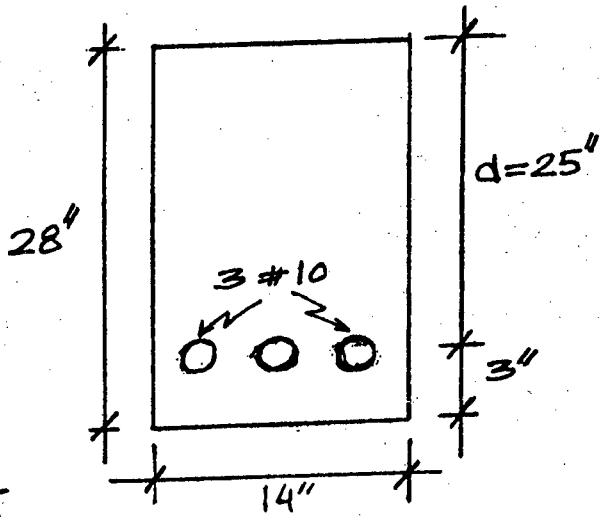

Fig. 2
5. (a) What are the sources of uncertainties in analysis, design and construction of RC structure? Discuss how safety is ensured against these uncertainties in USD method. (7)
- (b) Discuss the behavior of RC rectangular beam in flexure under increasing load by drawing neat sketches for strain and stress distribution of uncracked, cracked and ultimate conditions. (8)
- (c) A singly reinforced RC beam section, as shown in Fig. 2 has a width of 14 in., effective depth of 25 in. and total depth of 28 in. The tension reinforcement consists of three No. 10 bars in one row.
- (i) Cracking moment (10)
- (ii) Stresses in concrete and steel caused by a bending moment $M = 120$ kip/ft. (10)
6. (a) What is the purpose of providing minimum amount of flexural steel in beam? Write ACI/BNBC code provisions for minimum reinforcement ratios. (5)
- (b) Discuss how a minimum tensile strain ($\epsilon_t = 0.004$) at failure is ensured by not exceeding maximum reinforcement ratio. Also discuss the variation of ϕ with ϵ_t as given in ACI/BNBC code. (10)
- (c) A beam section is limited to width $b = 12$ in. and total depth $h = 25$ in. Calculate the required reinforcement if the beam has to resist a factored moment $M_u = 475$ kip-ft. Assume two layer tensile reinforcement with $d = 21$ in. and $d_t = 22.5$ in. Also, assume $d' = 2.5$ in. if compression steel is required. Given: $f'_c = 4$ ksi; $f_y = 60$ ksi. (20)